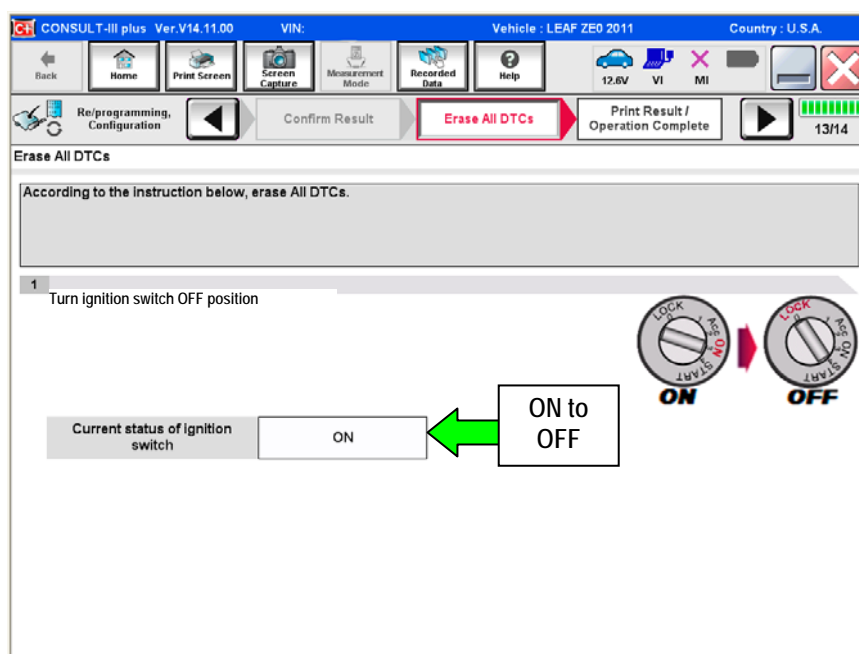

Figure 19
- The screen in Figure 19 will read **OFF** after pressing the power switch once.